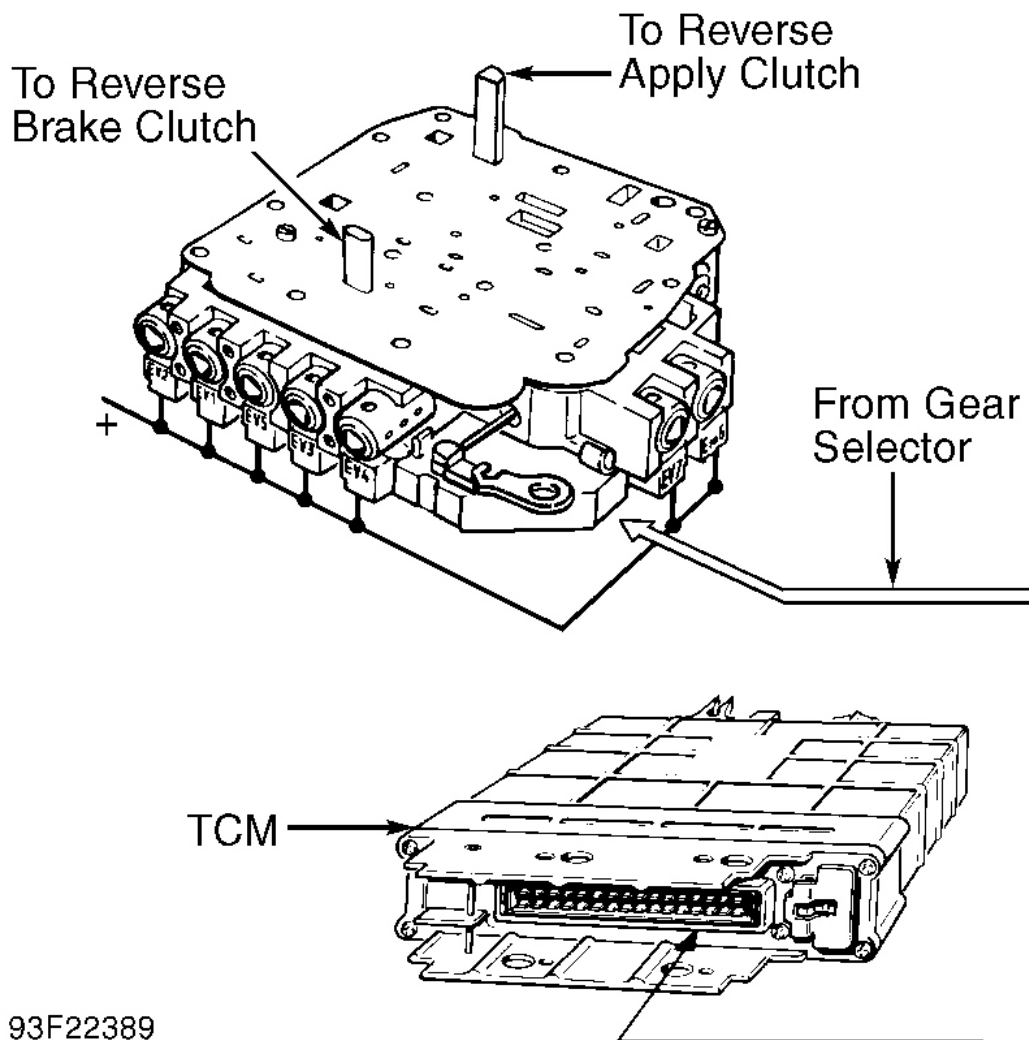

Fig. 7: Reverse Gear Oil Circuits
5. If one or more apply and brake clutch elements are affected, remove valve body. Locate appropriate fluid circuit in transaxle case and valve body. See **Fig. 7 -Fig. 13** . Check for leaks and blockage. Repair as necessary.
Check operation of apply and brake clutches by air checking fluid passages of valve body and transaxle case. See **Fig. 7**. Install pressure gauge to transaxle pressure tap located near dipstick tube. Check main hydraulic pressure under normal driving conditions. See the **MAIN PRESSURE SPECIFICATIONS** table. If main hydraulic pressures are not correct, check for excess idle speed, problem with pump or sticking valves in valve body. Repair any problems found.